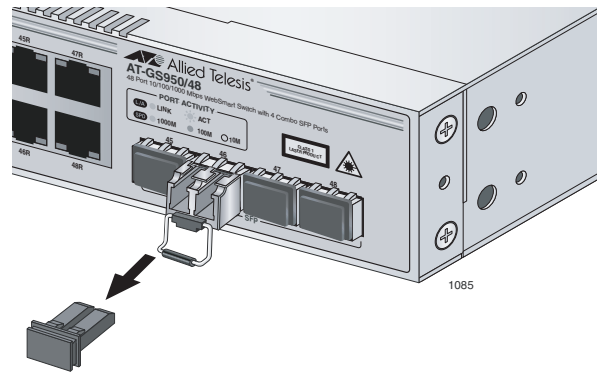

Figure 12. Removing the Dust Plug from the SFP
1. Remove the dust plug from the SFP, as shown in Figure 12.